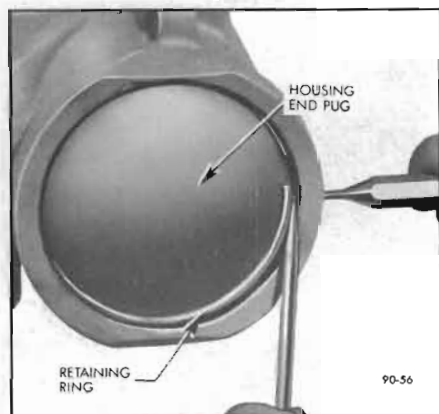

Figure 90-56—Removing Housing End Plug Retaining Ring
3. Rotate housing end plug retainer ring so that one end of ring is over hole in gear housing. Spring one end of ring with punch to allow screwdriver to be inserted to lift ring out. See Figure 90-56.